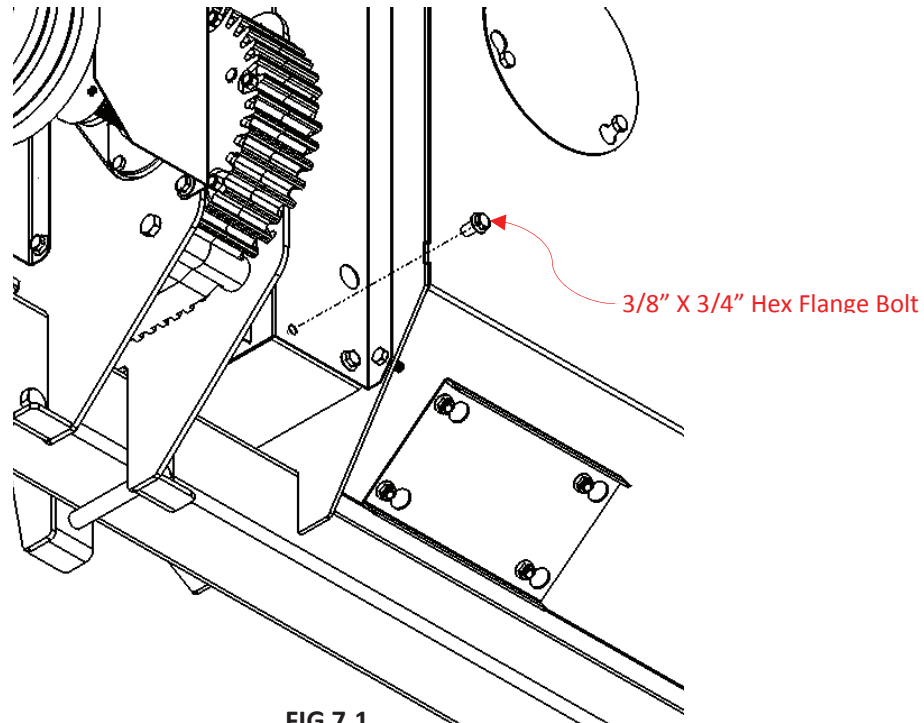

FIG 7.1
Mount bottom shield cover (12373) to drive chain shield as shown in figure 7.1. Bottom shield cover should be slid in from bottom and attached using (4) 3/8" X 3/4" hex flange bolts. Tighten bolts using a 9/16" wrench or socket. Do not overtighten.